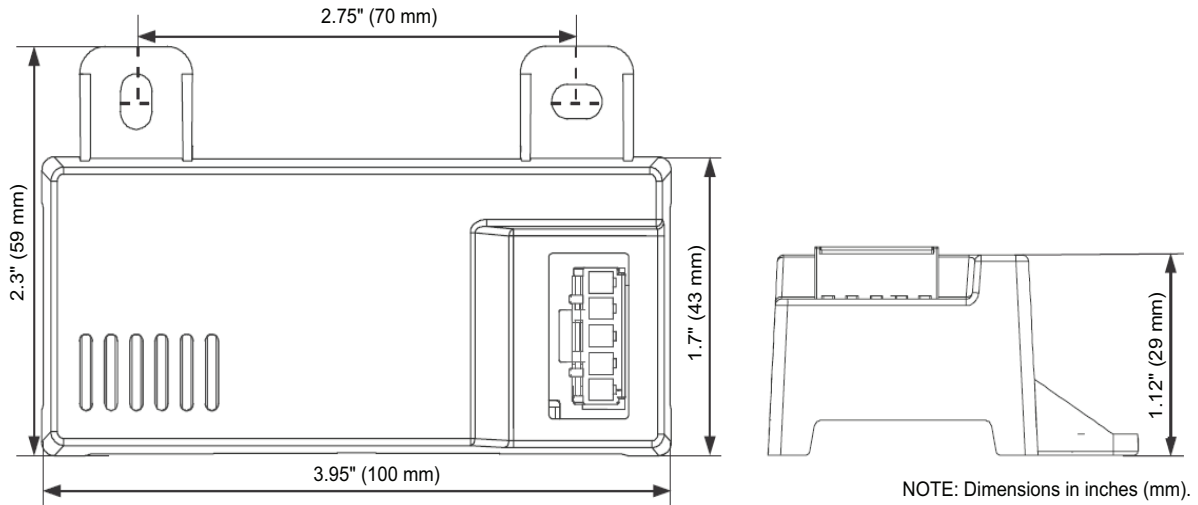
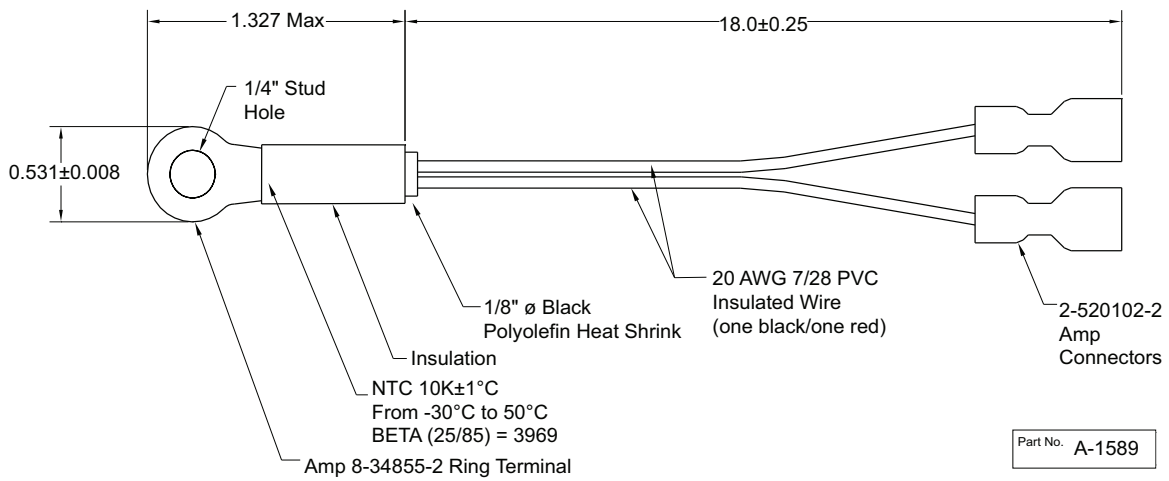
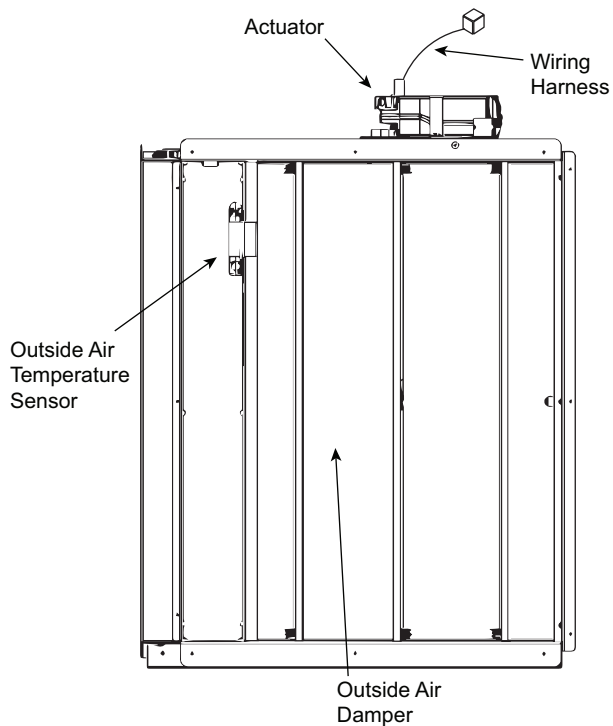

Fig. 71 — HH57LW001 Dimensional, Connection and Switching Information
Fig. 72 — HH79NZ039 Dry Bulb and Mixed Air Sensor Wiring
Fig. 73 — EconomizerONE Component Locations (CRECOMZR108A00 Shown)
When using the HH57LW001 enthalpy sensor (see Fig. 71) for outside air changeover, the existing HH79NZ039 dry bulb sensor (see Fig. 72) must be removed. The enthalpy sensor will be mounted in the same location as the dry bulb sensor (see Fig. 73). When the enthalpy sensor's OA (Outside Air) temperature, enthalpy, and dew point are below their respective setpoints, the outside air can be used for free cooling. When any of these are above the setpoint, free cooling will not be available. Enthalpy setpoints are configurable and create an enthalpy boundary according to the user's input. For additional details, see Fig. 74-75 and Table 29.
The optional enthalpy control sensor (P/N: HH57LW001) communicates with the POL224 economizer controller using the 5-wire harness, 48TC005213. The HH57LW001 sensor can be used as a single outside air enthalpy, a differential return enthalpy, or a differential return temperature sensor. Refer to the base unit control wiring diagrams found earlier in this book to wire the HH57LW001 enthalpy sensor for each option. Use Fig. 71 and Table 31 on page 53 to locate the wiring terminals for each enthalpy control sensor.
Economizers are shipped standard with an HH79NZ039 outside air dry bulb sensor (see Fig. 72). System default setting (high temp limit) is 63°F (17°C) and has a range of 48°F to 80°F (9°C to 27°C). Sensor is factory installed on economizer.
If installing the optional HH57LW001 enthalpy sensor, the HH79NZ039 dry bulb outside air sensor must first be removed. Wire sensor to harness 48TC005213 and the (5) wires from the harness to the EconomizerONE harness in the return air chamber. Harness 48TC005213 has a 5-pin plug that connects directly to the HH57LW001 enthalpy sensor. Refer to the base unit control wiring diagrams earlier in this book for wiring connections. Refer to Fig. 71 and Table 31.